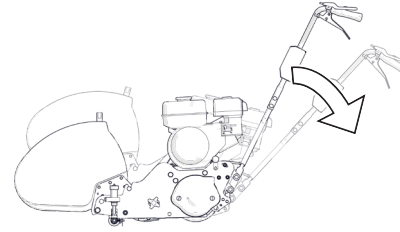

Fig.9B - Gently tip the machine back.
4. Tip the machine gently back so it rests on the rear roller and handlebar (Fig. 9B).